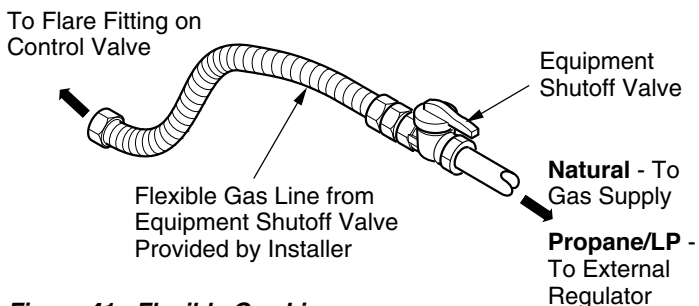

Figure 41 - Flexible Gas Line
2. Route flexible gas line (provided by installer, see Figure 41) from equipment shutoff valve to burner system. Route flexible gas supply line and attach to valve.